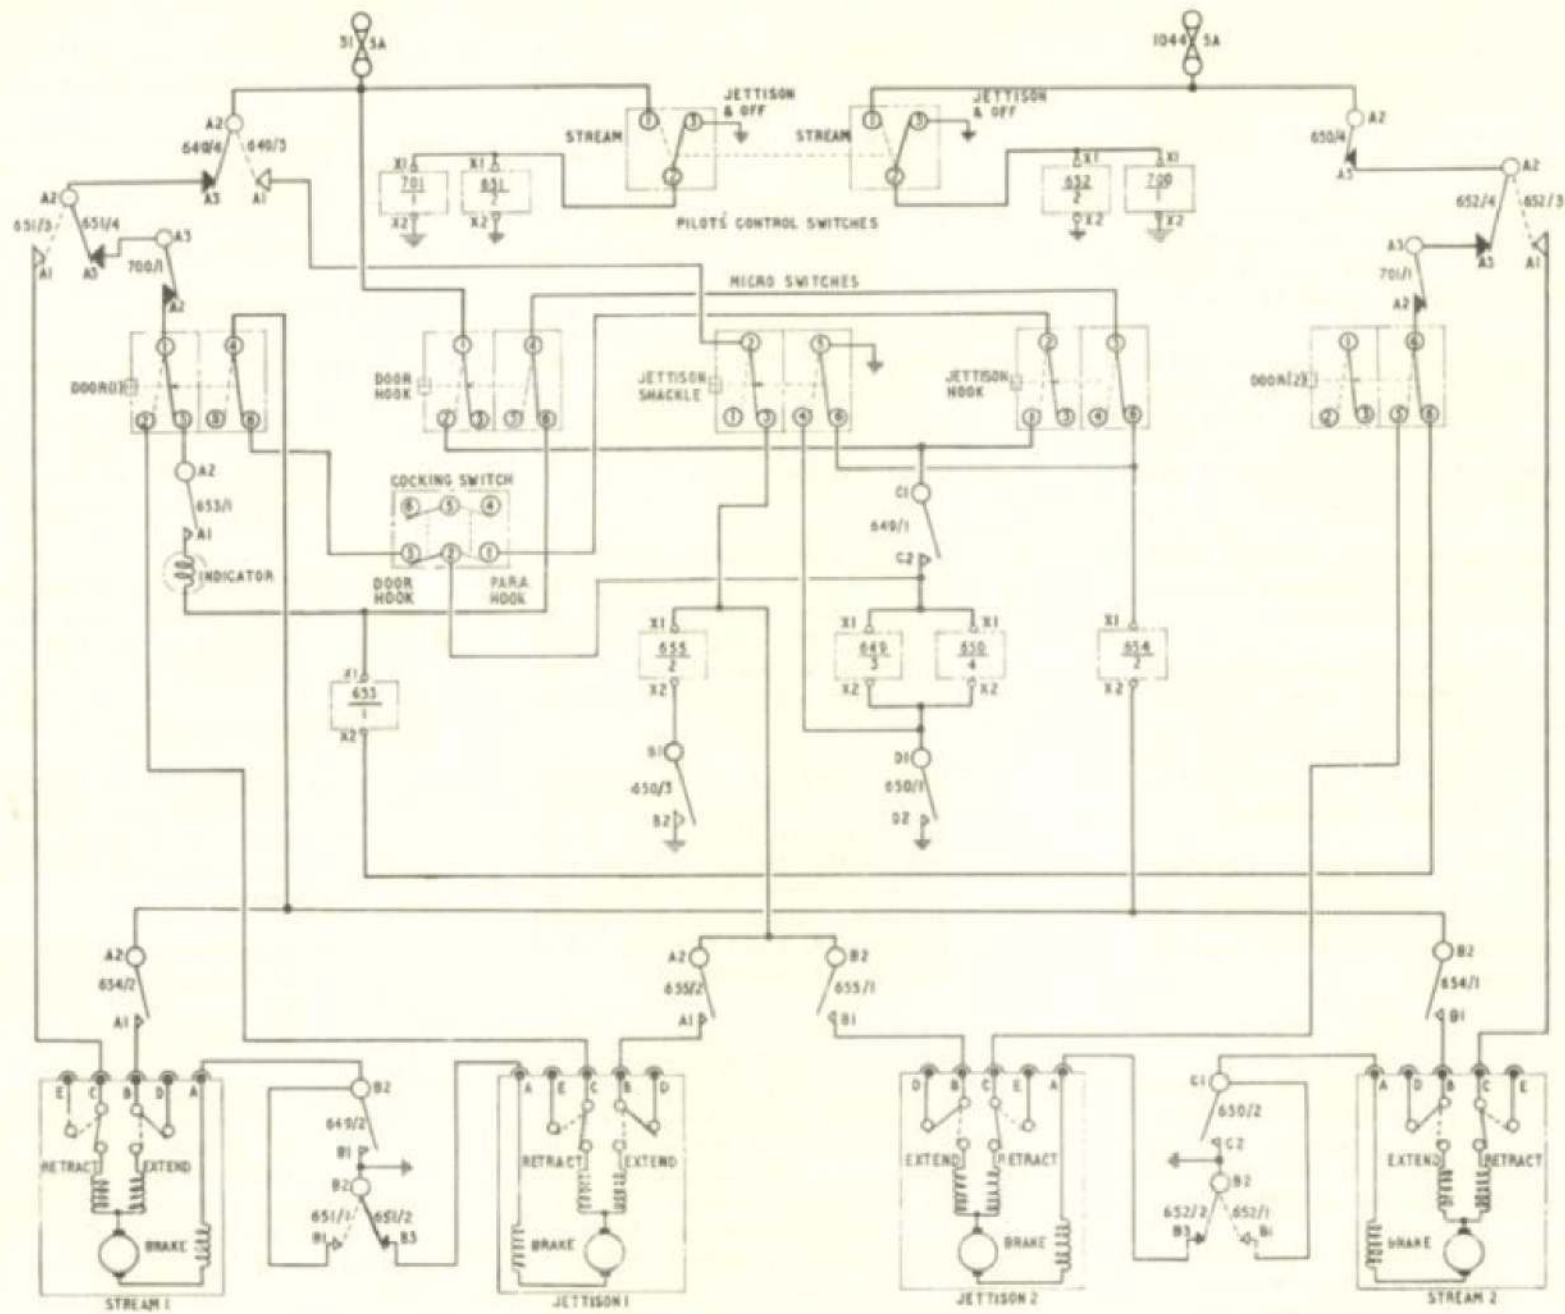

Fig.3 Brake parachute control
10. Referring to fig.3, it should be noted that the circuit is shown with the brake parachute correctly stowed and ready for use, i.e., the door and jettison micro switches are shown with their associated mechanism in the cocked position and the actuators extended with the retract field selected. The magnetic indicator will be energised black to show this condition when 28-volt d.c. supplies are connected to fuses 31 and 1044 by the following circuit action:-
17. Referring again to fig.3, it will be